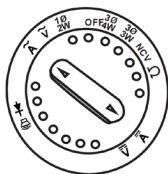

Fig. 7 Current measurement knob position
- Set the function selector switch to A~ as shown in figure 7.